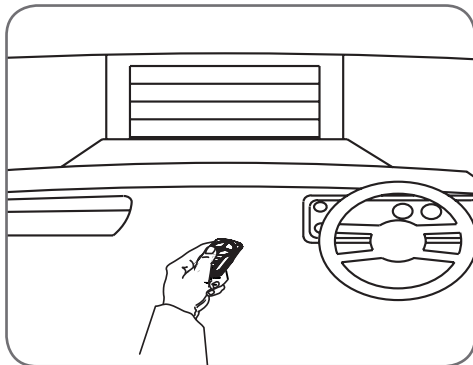

Fig. 4.1
- If you are in a vehicle you should aim the transmitter through your windscreen (**Fig. 4.1**).